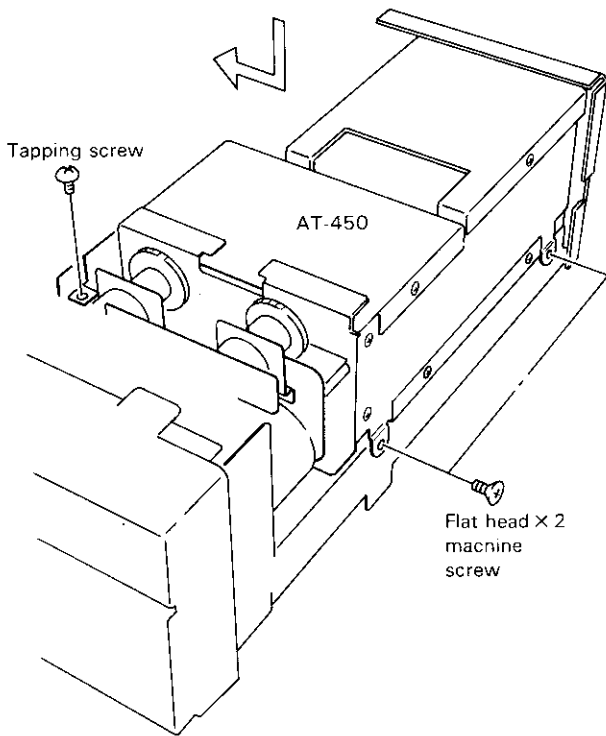

Fig. 1
2. Install the AT-450 with three screws. (Figure 1)